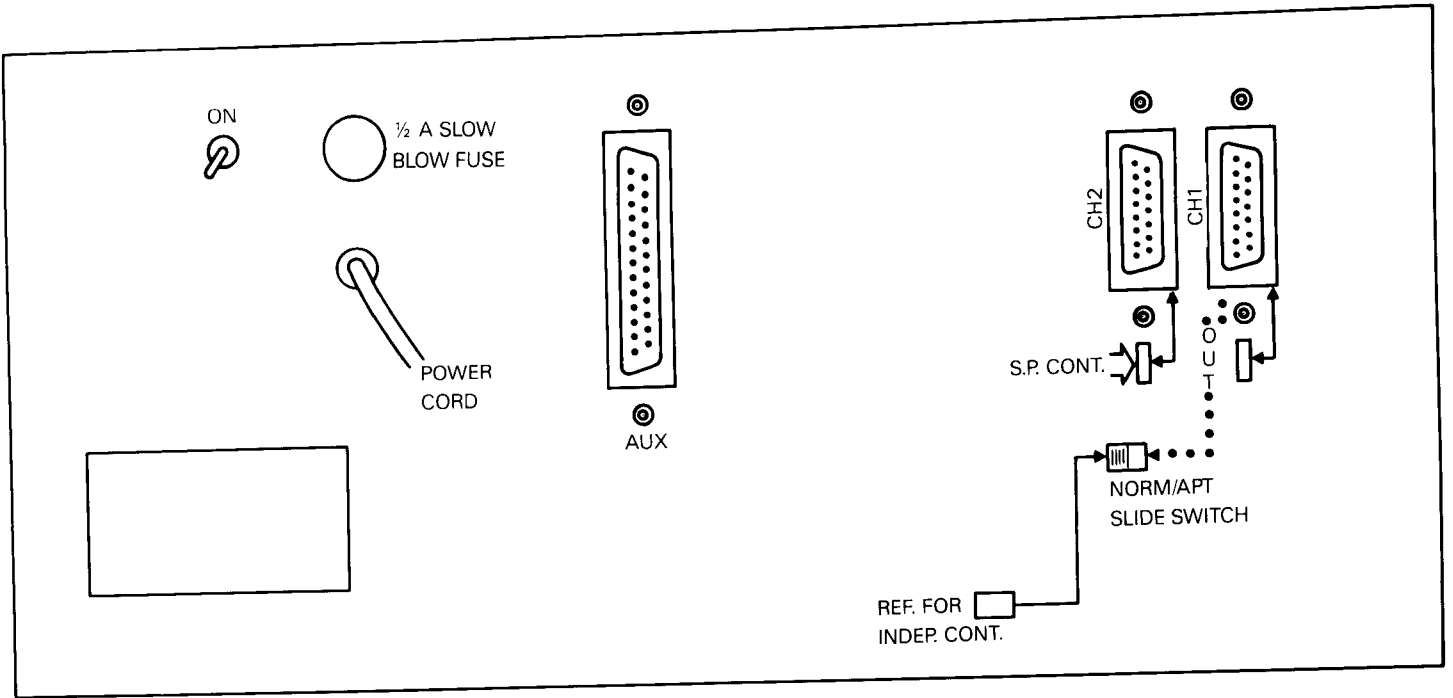

Figure 2-1. Rear Panel Connections (FMA-78P2 is Pictured)
The signal inputs (flow signal line plus common) enter the instrument via the 15-pin connectors (CH1 through CH4) on the rear panel of the FMA-78P2 and FMA-78P4. Refer to Figure 2-1.
1. Push the Norm/APT slide switch(es) on the rear panel (refer to Figure 2-1) to the left, towards the solid line and reference arrows marked "REF FOR INDEP CONT".
For APT Mode Operation, set the selected Norm/APT slide switch(es) so that the channel(s) which is to "follow" or "track" a given reference channel is set to the right side, towards the dotted line(s). Refer to Figure 2-1.